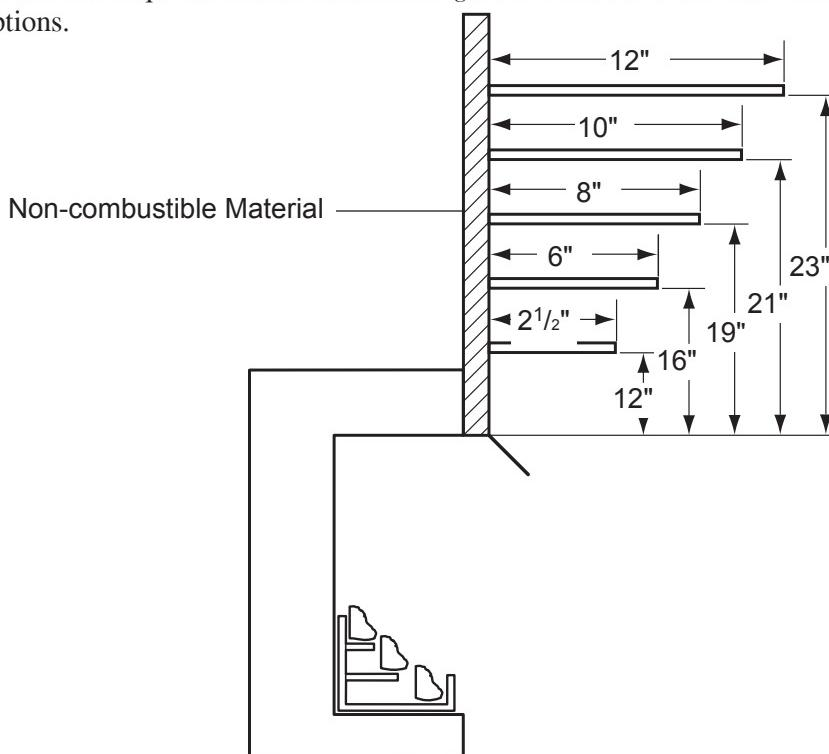

**Figure 4 - Clearance and Height Requirements**
Ensure that minimum clearances shown in Figures 4 through 7 are maintained. Left and right clearances are determined when facing the front of the firebox.
1. **Sidewall clearances:** The clearance from the inside of the appliance to any combustible wall should not be less than 9". *See Figure 4.*
2. **Ceiling clearance:** The ceiling must be at least 42" from the top of the firebox opening. *See Figure 4.*